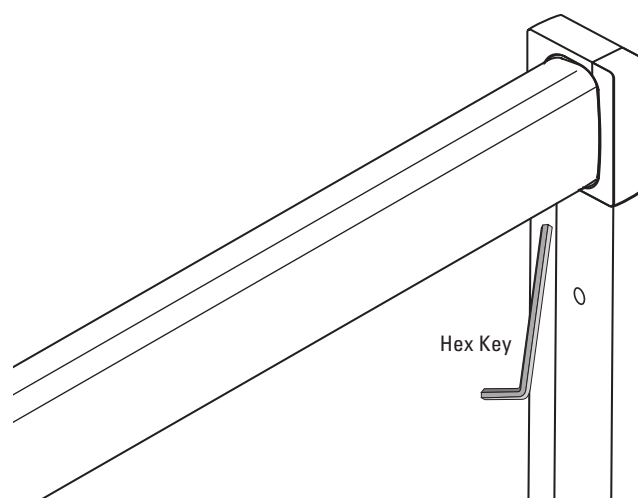

Figure 8a
E. Tighten the small screw on the bottom of each Wall Mount Bracket using the Hex Key (See **Figure 8a**).